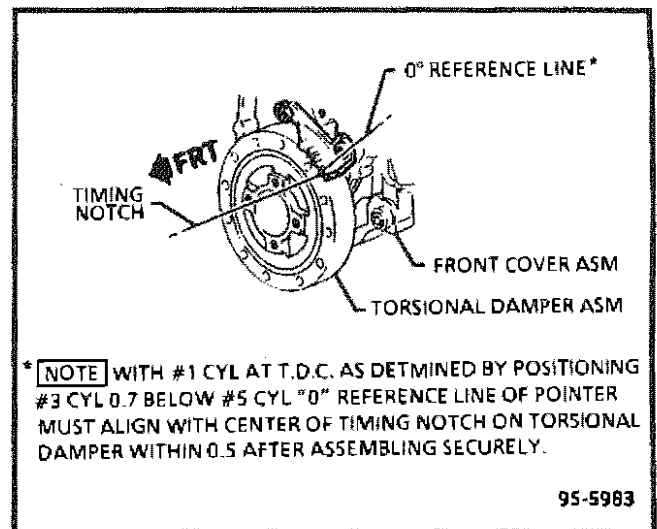

Figure 28 - Typical Timing Mark
- Connect an ohmmeter to either pickup coil lead and the housing as shown in Figure 28, Step 1. The reading should be infinite. If not, replace the coil.
4. Follow all instructions on the Vehicle Emission Control Information label. Start the engine, and aim the timing light at the timing mark (Figure 28). The line on the balancer or pulley will line up at the timing mark. If a change is necessary, loosen the distributor hold-down clamp bolt at the base of the distributor. While observing the mark with the timing light, slightly rotate the distributor until the line indicates the correct timing. Tighten the hold-down bolt, and recheck the timing.